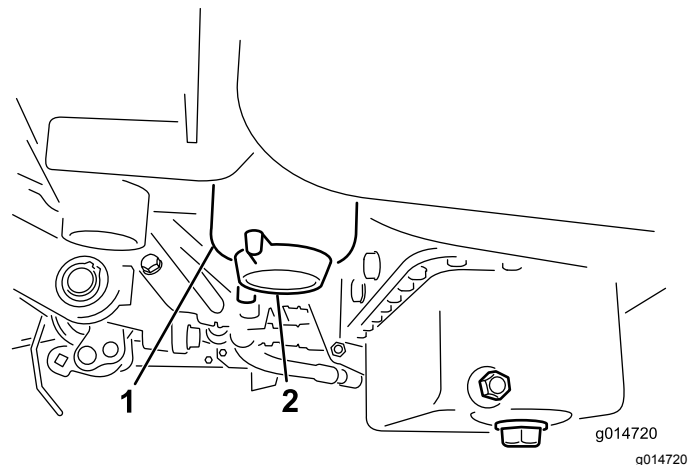

Figure 32
2. Clean the area where the filter canister mounts (Figure 32).
4. Open the filter drain plug (Figure 32).